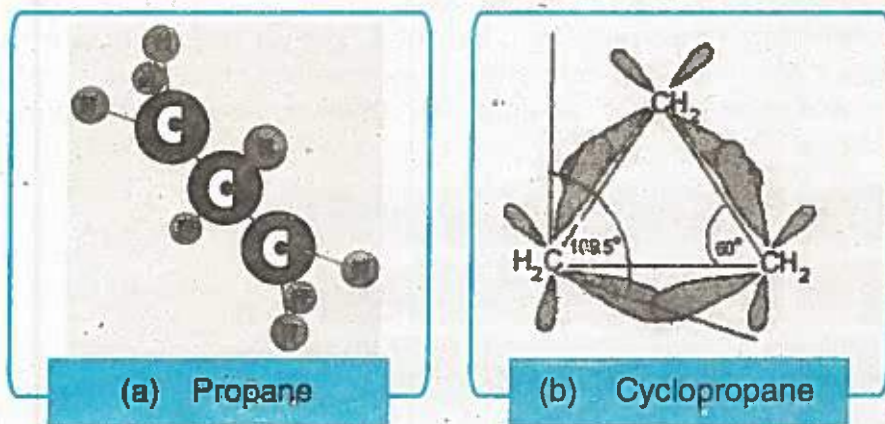

Fig 16.2 Overlap between sp³ orbitals in (a) Propane (b) Cyclopropane: Maximum overlap occurs in propane.
- (B) In cyclopropane (C₃H₆), each carbon atom, like alkanes, is bonded to four other atoms, so it uses sp³ hybrid orbitals to form these bonds. However, in this case, the sp³ - sp³ overlap of C-C bond is not maximum as in the case of alkanes. This is due to the fact that in cyclopropane the C-C-C bond angle is 60° and not 109.5° (true tetrahedral angle) due to which orbitals do not overlap exactly along their axes (Fig. 16.2). Thus the small bond angles of cyclopropane indicate that the overlap of sp³ orbitals of carbon is less than the overlap of sp³ - orbitals of carbon in alkanes (e.g. propane).